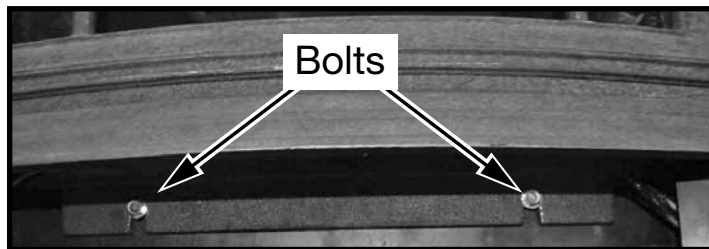
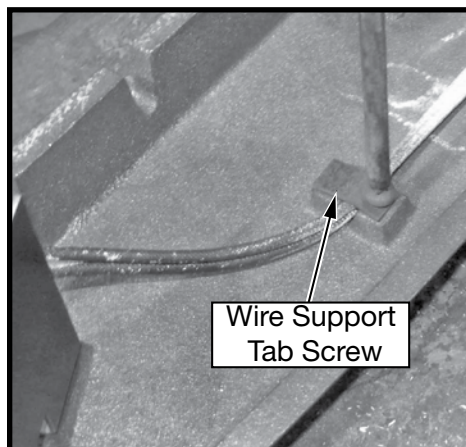

Figure 15: Bolts securing ash lip to firebox.
Figure 16: Wire Guides.
3. Loosen the two bolts that secure the ash lip to the firebox (Figure 15)), carefully lift up the ash lip and remove from the firebox and unscrew the wire support tabs (Figure 16) noting how the wire are held in place.